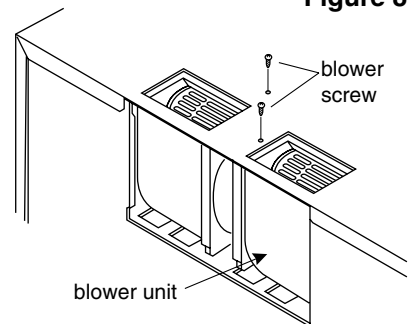

Figure 9
1. Remove and save the two blower screws. See Figure 9.